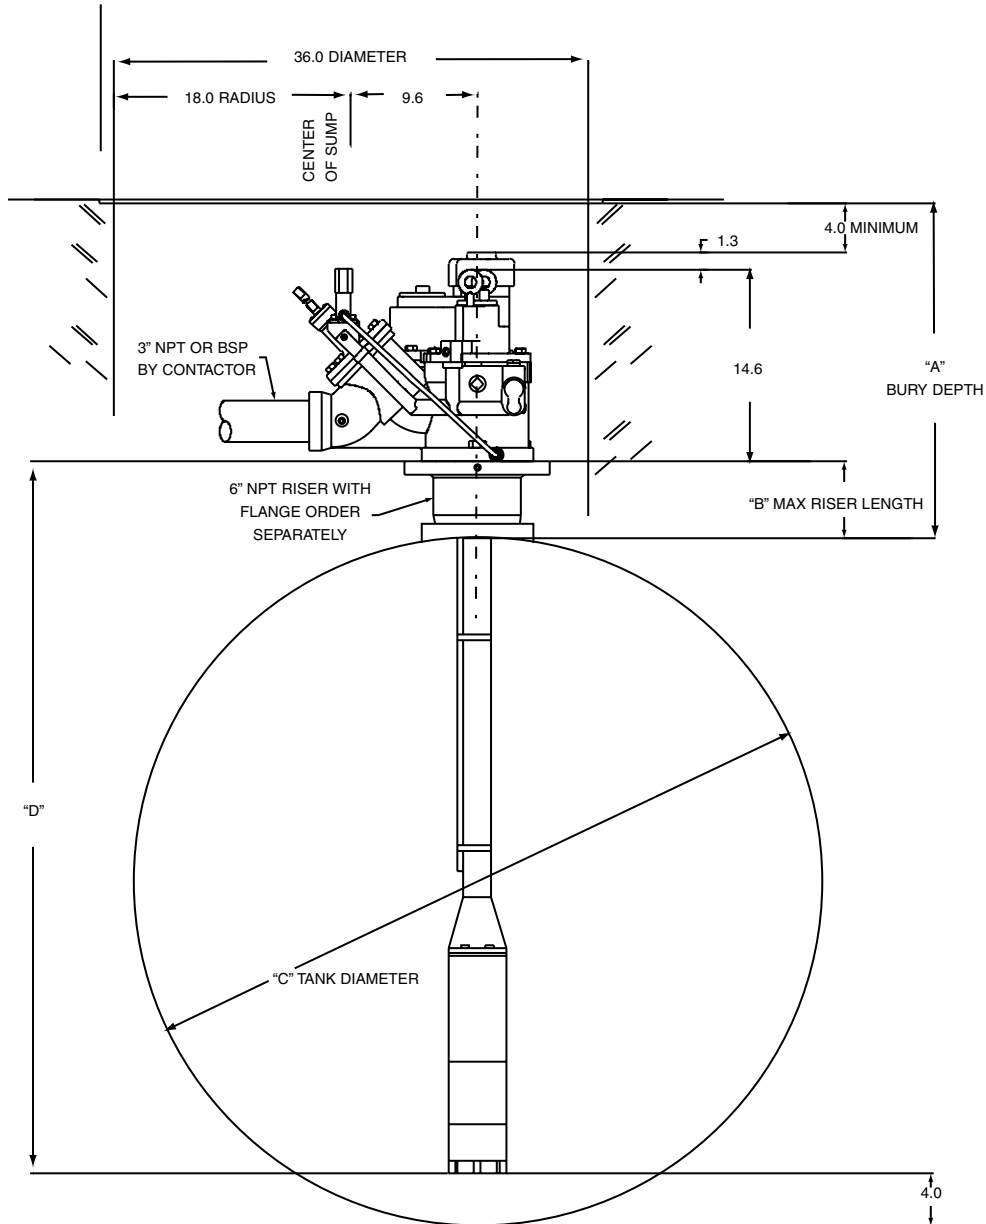

FIGURE 10
4. After the above checks have been made, the backfill can be completed and the manholes installed as shown in Fig. 10.